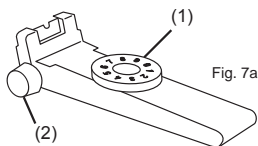

Fig. 7a
– The settings for elevation are marked by the numbers 0-9 on the elevation adjustment screw. If the rifle shoots high: turn the screw (1) clockwise (See Fig. 7a).
If the rifle shoots low: turn the screw (1) counterclockwise (See Fig. 7a).
– Windage settings are marked on the sliding scale on the rear sight rail and are controlled by turning the screw (2) on the side (See Fig. 7a). If the rifle shoots to the right: adjust clockwise. If to the left: adjust counterclockwise.